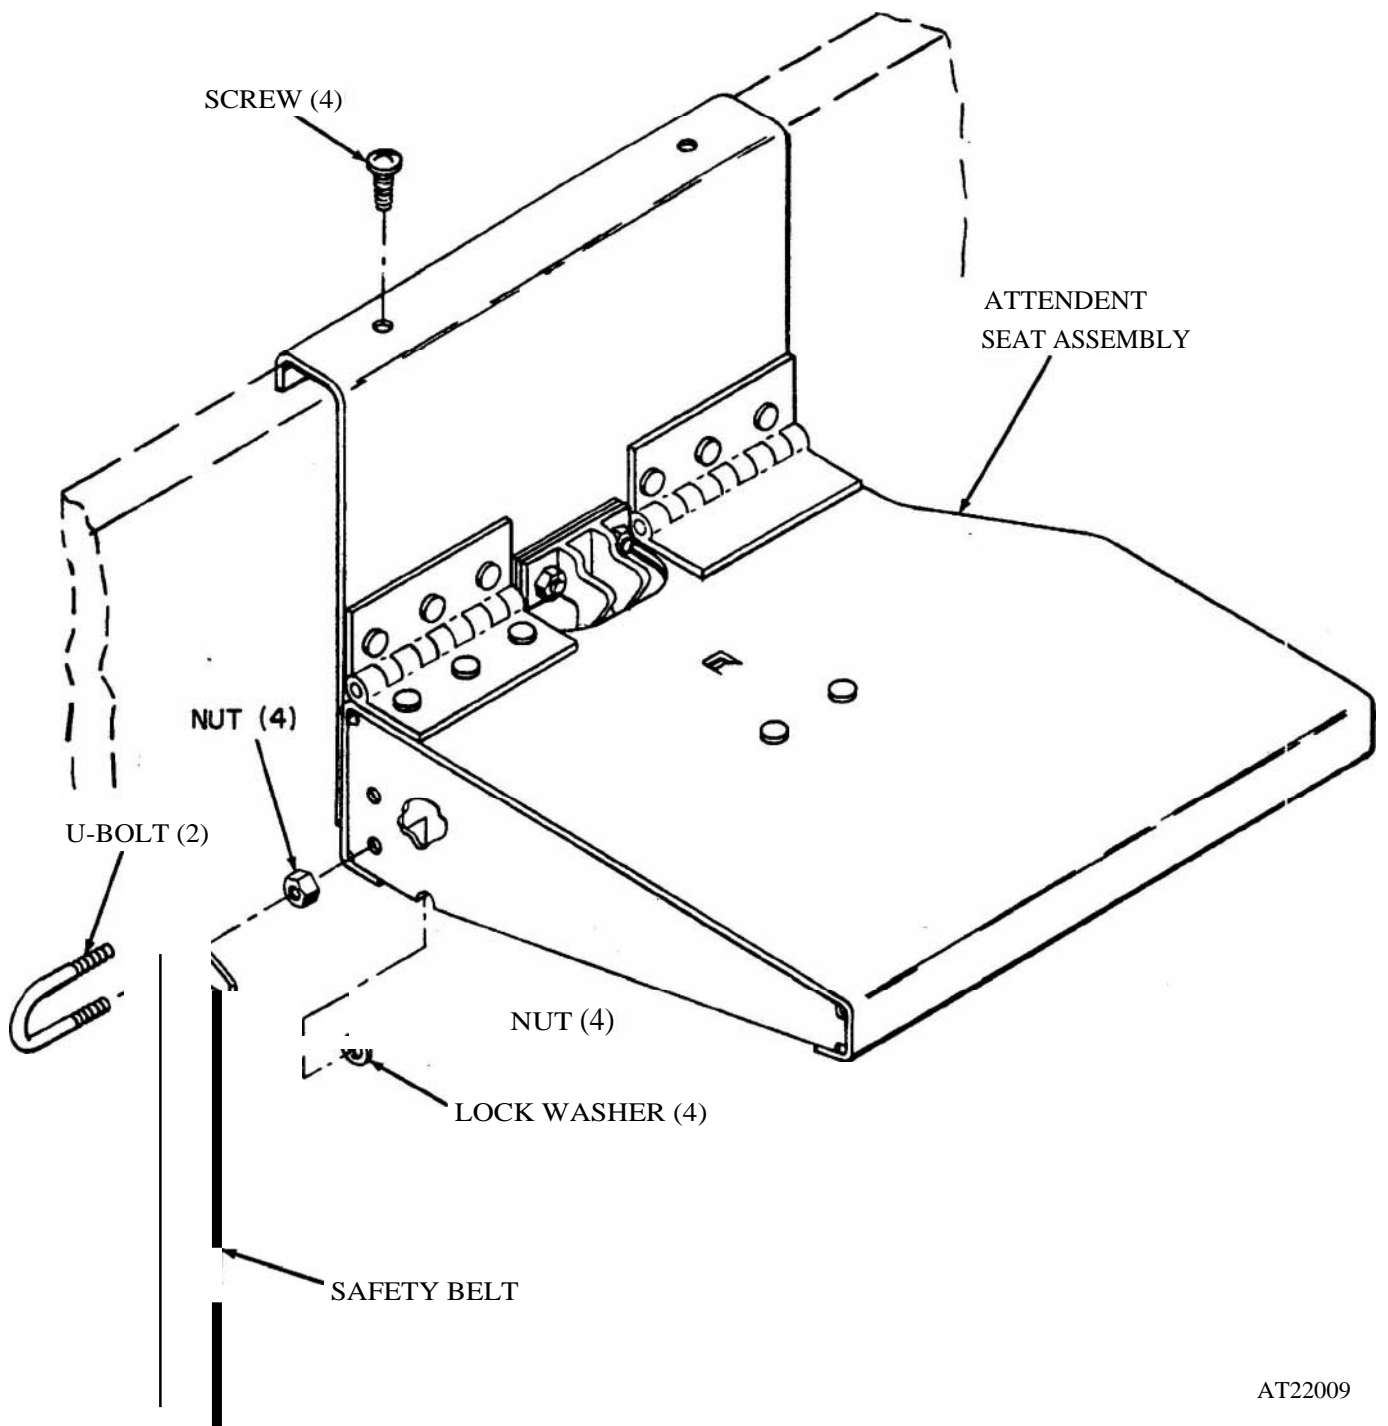

Figure 2-357. M792 ambulance attendant seat, removal and installation.
(1) Remove seat assembly by removing four screws securing assembly to front carrier rail (fig 2-357).
(2) Remove U-bolts securing attendant safety belts to seat by removing securing nuts and lock washers.
(3) Remove remaining nuts from U-bolts and remove safety belts.
(1) Position safety belts on two U-bolts. Install two nuts on each U-bolt. Position assembly to seat and secure with two nuts and lock washers on each U-bolts (fig 2-357).
(2) Position seat assembly on left front carrier rail and secure with four screws.